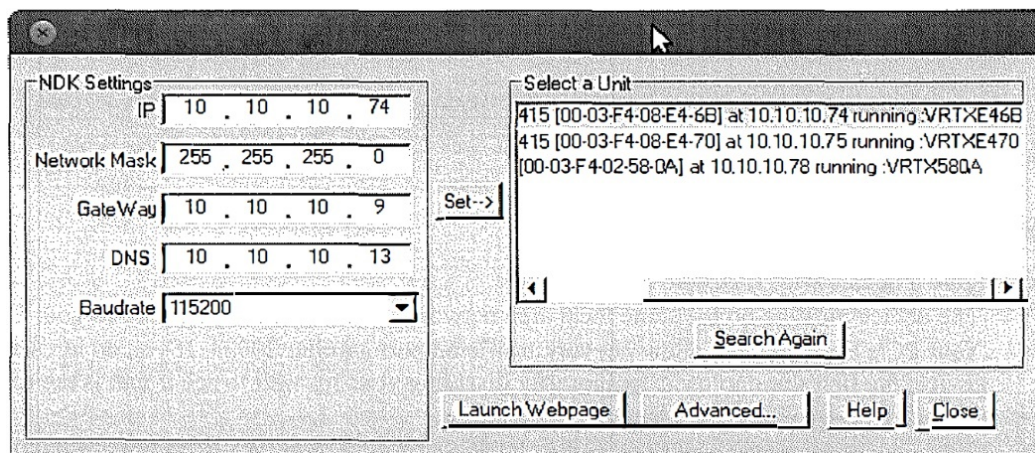

Fig 10: IPSetup for Static Address Setting
- IPSetup shows the name of the application, as shown in figure 10. The name is composed of the last 4 HEX digits of the unit's MAC address, for example - E46B. This default Unit name is set as the so-called NetBios name. You may access the Unit by this name by typing it in the WEB browser's address field, like <http://E46B>. This name may be changed on the Configuration page of Unit's WEB Page.